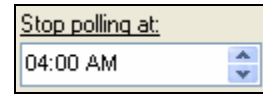

Figure 13.0.9
- Select a “**Stop Polling at:**” time by using the pull down arrows to the right of the “**Stop Polling at:**” box (Figure 13.0.9).